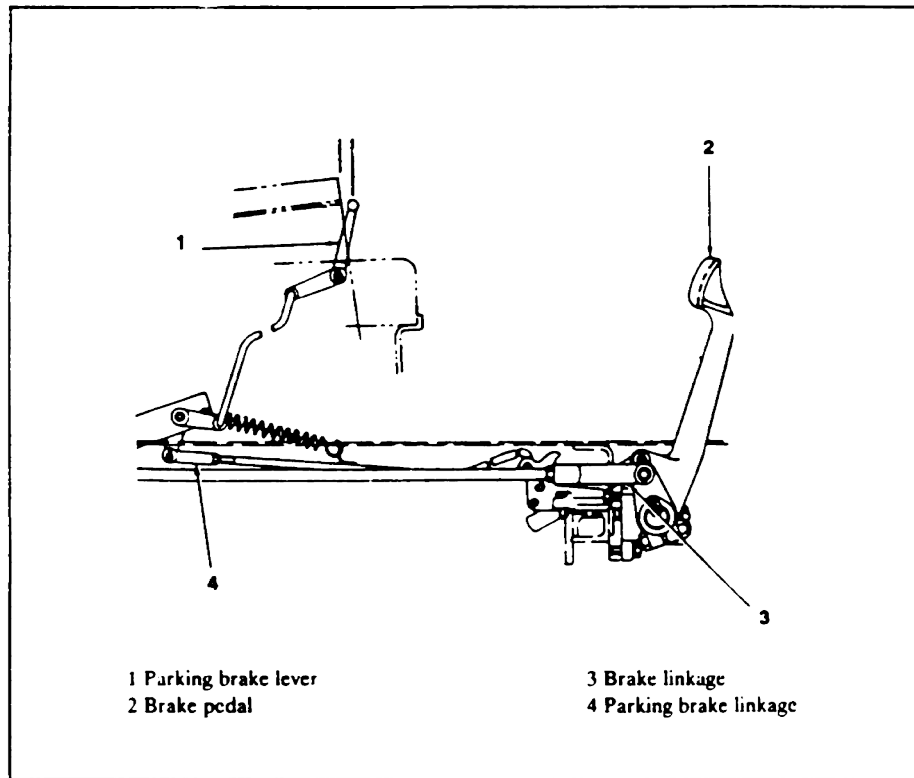

FIGURE 6. STEERING BRAKE LINKAGE
Step 1. Performing the simplest task first, check the steering brake pedal for free movement. Use Figure 6 and Table 2. You find the brake pedal free travel is correct.